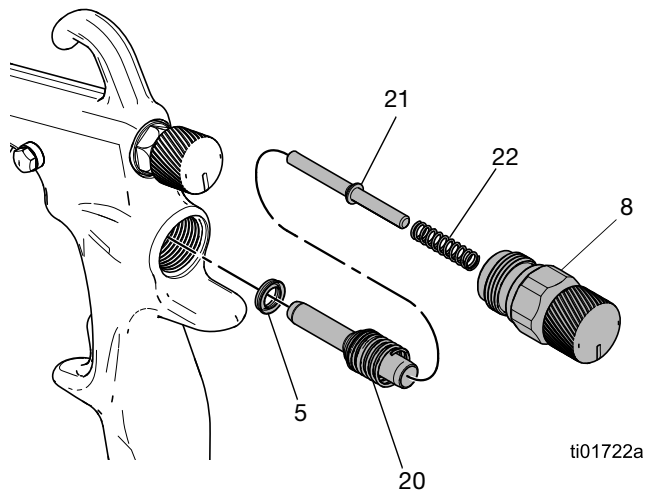

FIG. 28: Fluid Control Valve Assembly
1. Insert the packing u-cup (5), fluid adjustment valve (20), air valve stem (21), and spring (22) into the back of the gun.
2. Use a wrench or gun tool to tighten the fluid adjustment housing (8) into the gun body. Torque to 205–215 in-lb (23.2-24.3 N•m).
NOTE: Make sure the air valve stem (21) is oriented as shown in FIG. 28. The spring (22) should rest on the flat side of the air valve stem (21) when installed into the back of the gun.